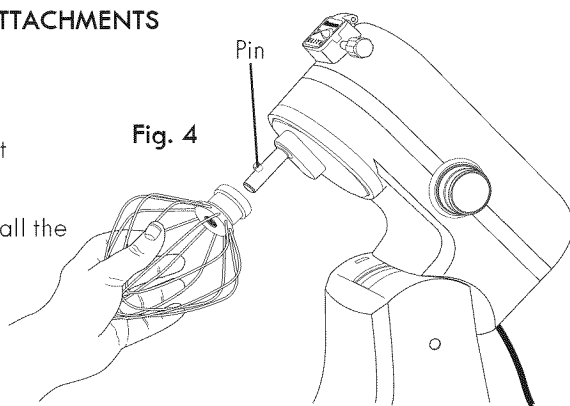

Fig. 4
4. Align slot at the top of Attachment with pin on Tilt Head shaft. Push Attachment up onto shaft and turn counterclockwise until pin moves all the way into the slot (see Fig. 4).